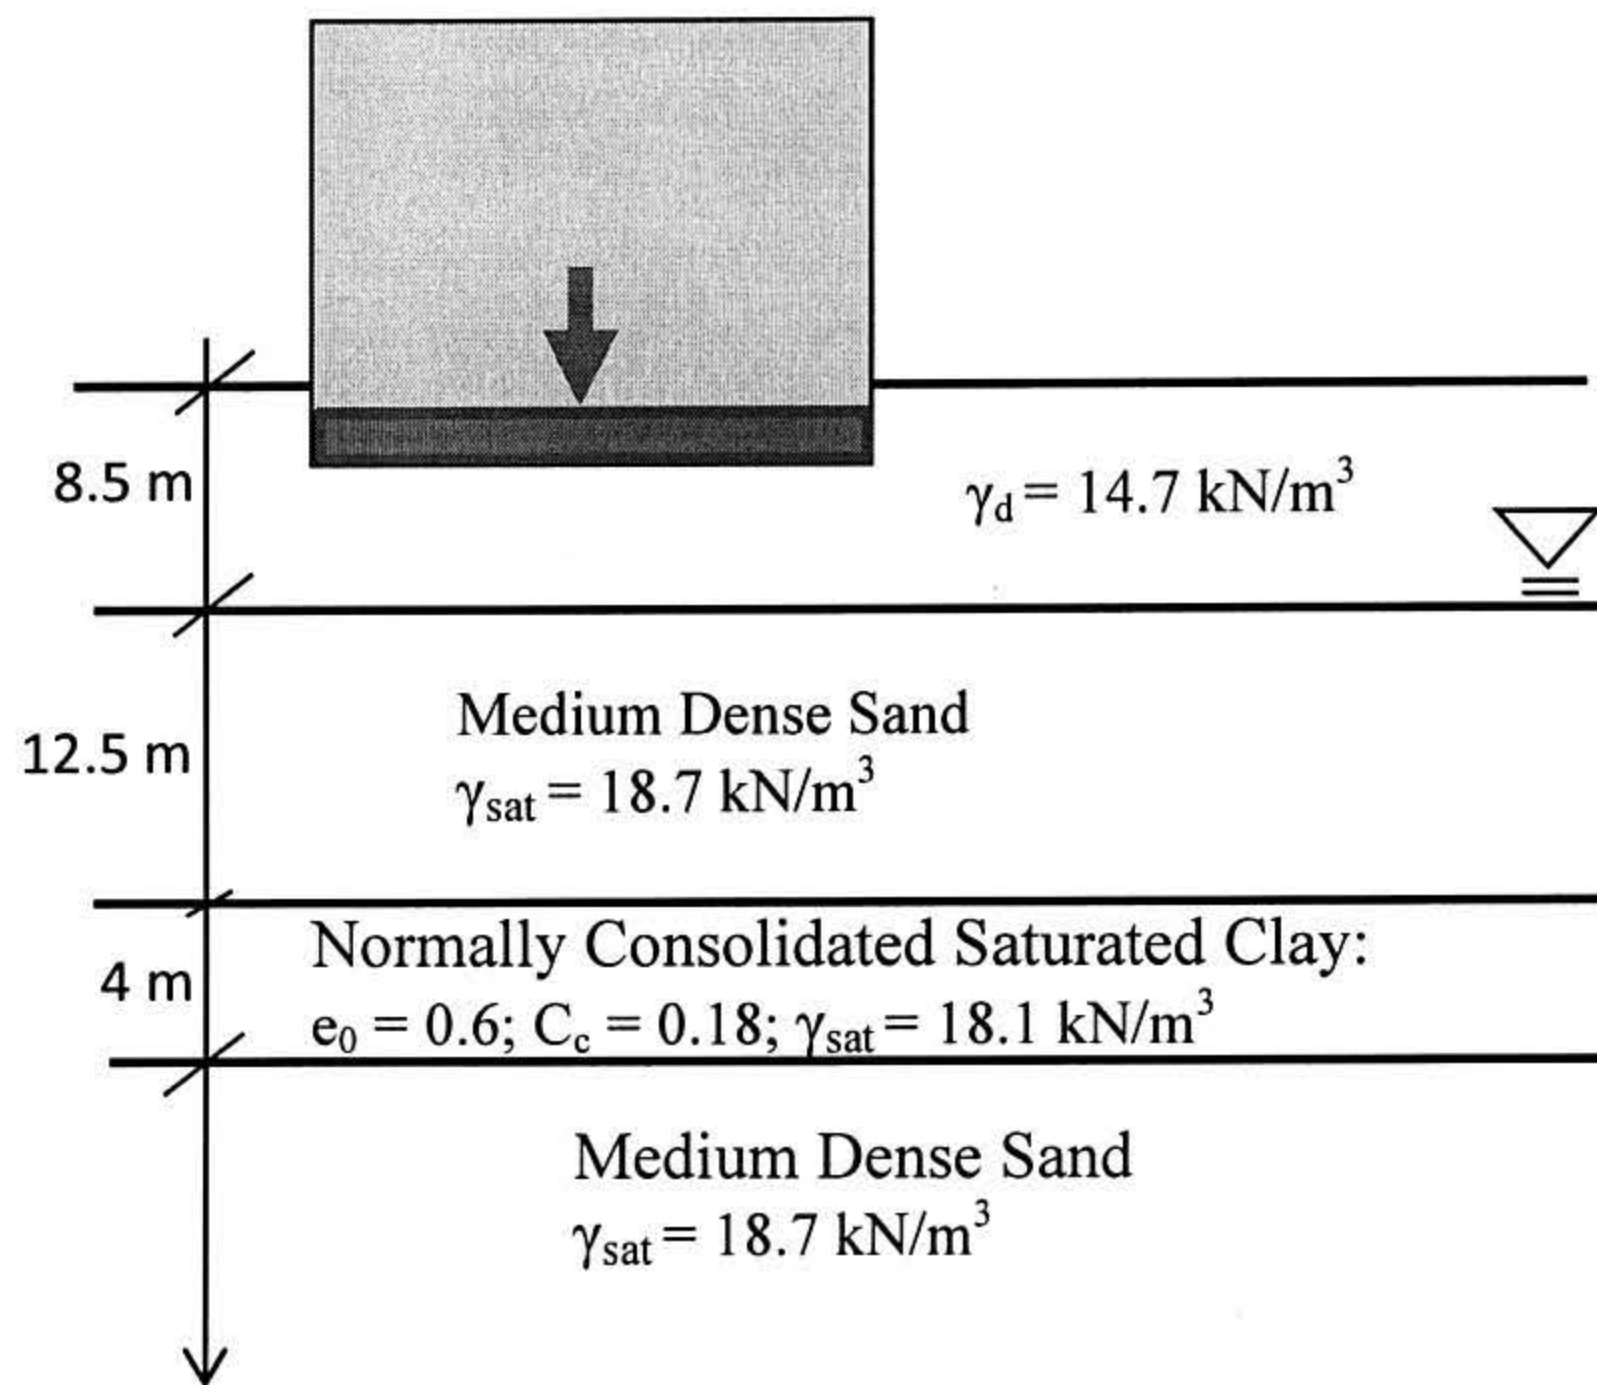

Fig. 3
4. Estimate the consolidation settlement of the mat foundation (Fig. 3).